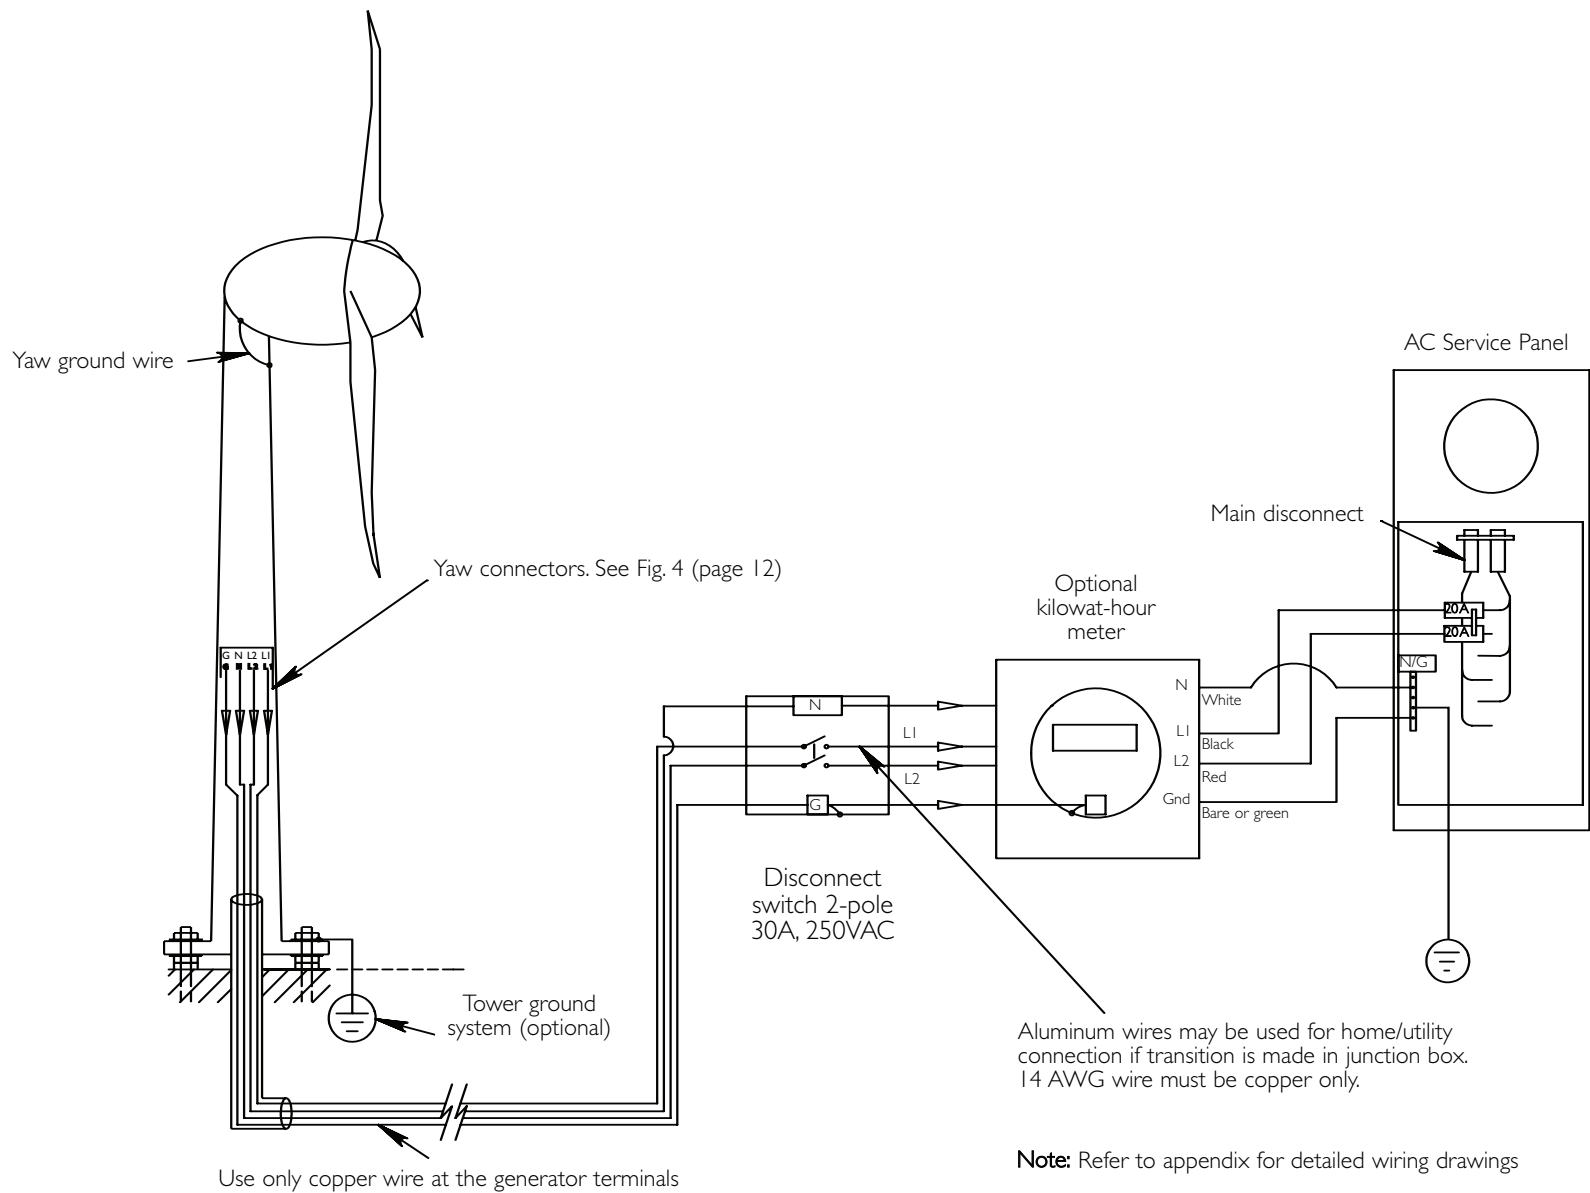

Fig. 3 Wiring diagram
Refer to Fig. 3 on the opposite page for a complete overview of Skystream wiring.
**Note:** Only 20 Amp circuit breakers may be used to connect Skystream to AC service panel. Refer to Fig. 3, wiring diagram.